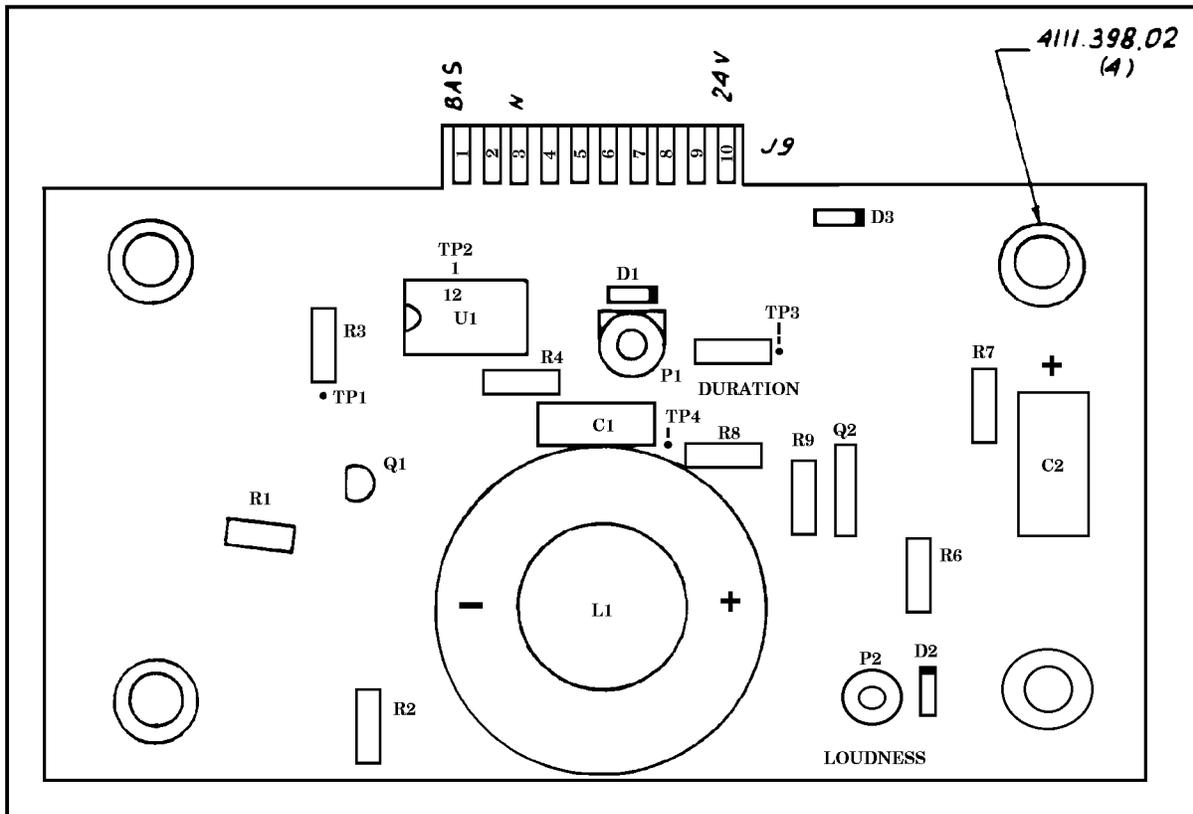

Figure 3-63
(1) Make a radiographic exposure.
(2) If the audible signal is too long or too short, adjust pot P1 (Duration) for a signal tone duration on the Exposure End Buzzer PCB (5184.234.2901). (See Figure 3-63.)
(3) If the audible signal is too loud or too soft, adjust pot P2 (loudness) for a signal tone duration on the Exposure End Buzzer PCB (5184.234.2901).
(4) Turn the MAINS off.